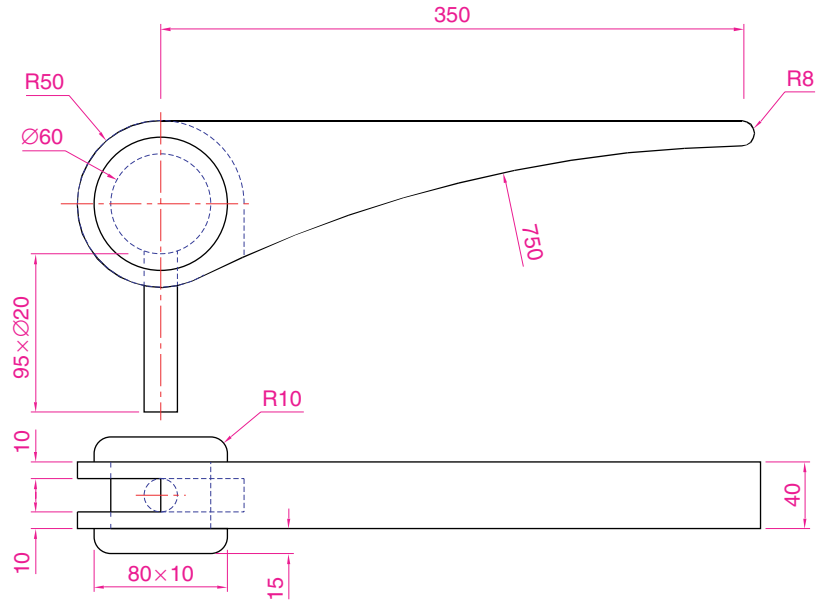

Fig. 14.16 Exercise 4 – orthographic projection
4. A two-view orthographic projection of a rotatable lever from a machine is given in Fig. 14.16 together with an isometric drawing